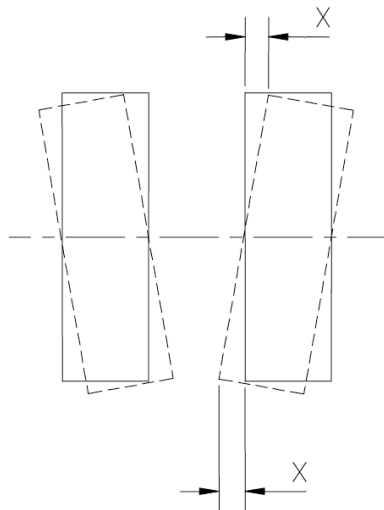

Figure 8.2: Measuring the angular misalignment
Check the angular offset with the help of dial gauges by measuring the axial run-out at the inner plane surface of the hub (item 1). The dial gauge must hereby be positioned as close to the outer diameter as possible. The angular offset 'X' in mm amounts to half of the calculated total value (see figure 8.2). The values of the angular offsets should not exceed the permissible initial offsets specified in table 8.2.